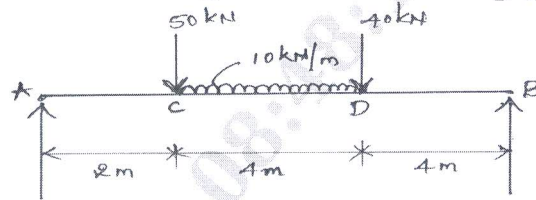

Fig.Q.4(b)
- b. Draw S.F.D and B.M.D for the following beam as shown in Fig.Q.4(b). (12 Marks)